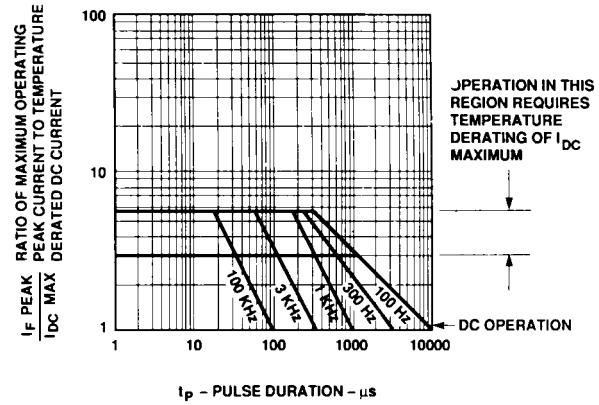

Figure 7. Maximum Tolerable Peak Current vs. Pulse Duration - Yellow Series.
- See Figure 7 to establish pulsed conditions.